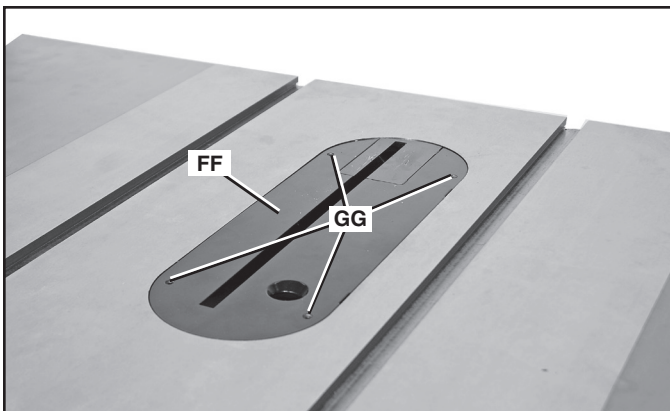

FIG. 25
The throat plate (FF) Fig. 25 needs to be level to the saw table. If the throat plate is not level with the saw table, adjust the plate using four set screws (GG). Lower or raise set screws as needed to align throat plate level to the saw table.
1. Remove throat plate (FF) Fig. 25.